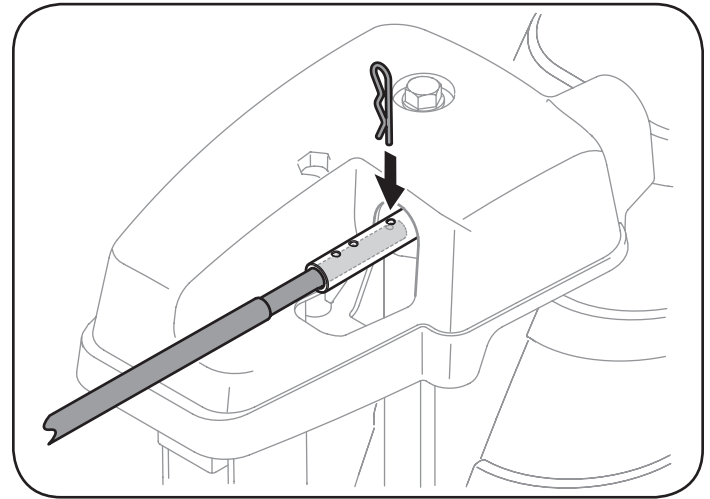

Figure 48
2. Push in the chute control rod until the hole in it lines up with the third hole in the chute control head. See Figure 48.
3. Reinsert the cotter pin through this hole and the chute control rod as shown in Figure 48.